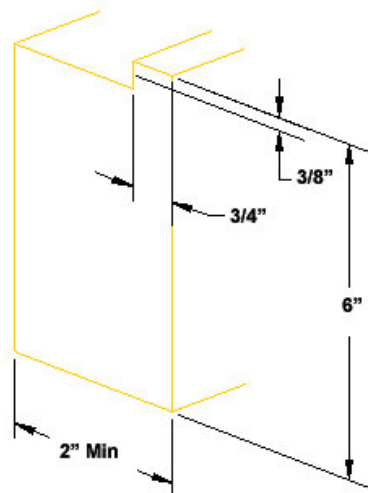

Figure 24
- e. Notch the top of the I.S. Closure Block to accept the Dryvit Track, as shown in Figure 24. **NOTE: Dryvit Starter Strips can be used above windows, doors, etc.** This will minimize the required field notching to only L-shaped closure blocks at the corners.